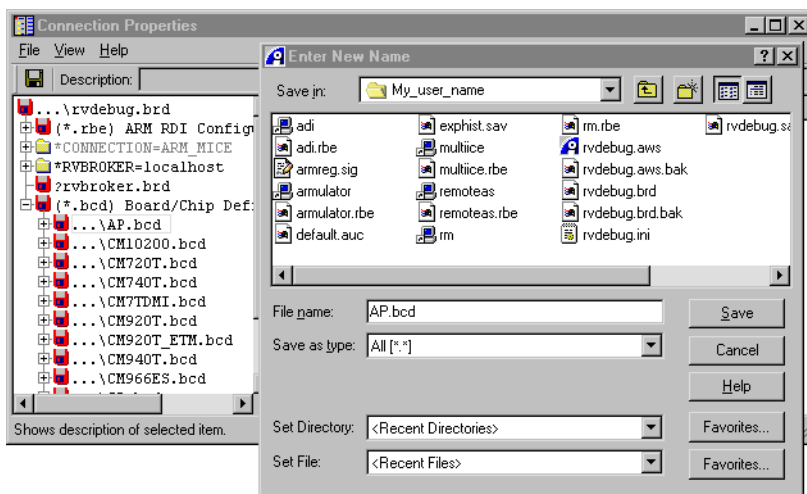

Figure 3-3 Saving an existing *.bcd file with a new name
4. Select **Save As...** from the context menu, to display the dialog shown in Figure 3-3.